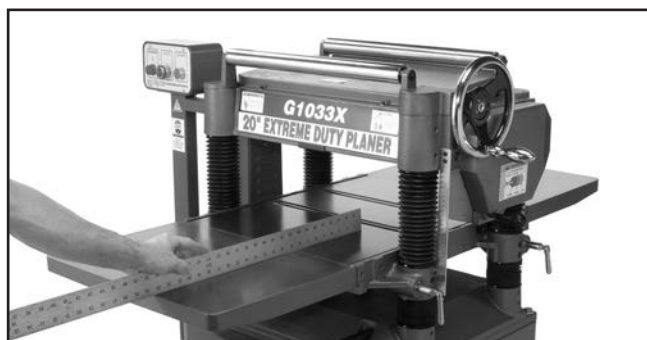

Figure 13. Leveling extension table (G1033X).
3. **G1033:** Using a straightedge as a guide, position extension tables so they are in plane with main table, then fully tighten hex bolts from **Step 1** (see **Figure 13**).
G1033X & G1033Z: Using a straightedge as a guide, rotate set screws from **Step 2** until extension tables are in plane with main table, then fully tighten hex bolts from **Step 1** (see **Figure 13**).